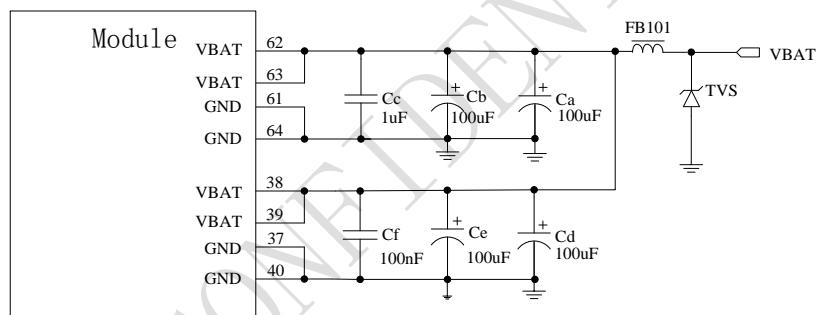

Figure 7: VBAT input reference circuit
***Note: test condition: Vbat power supply 3.8V, $C_d = 100 \mu F$ tantalum capacitance (ESR equal to 0.7Ω), $CF = 100nF$. (Refer to figure 7 for circuit)**